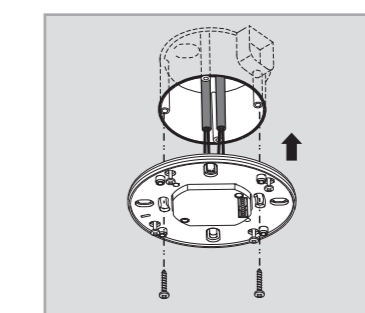

FIG.13
- 3.4.1.3 Fix the power box into European standard junction box with 2pcs screws (See FIG.13).